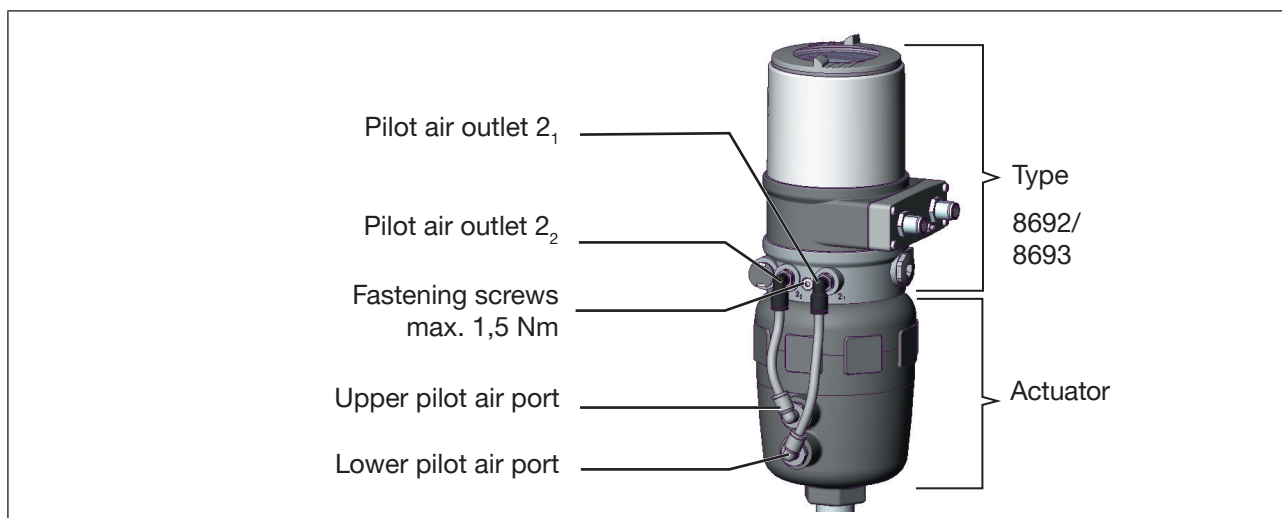

Figure 20: Installation of Type 8692/8693 on process valves belonging to series 26xx and 27xx
Ensure that the pneumatic connections of Type 8692, 8693 and those of the valve actuator are situated preferably vertically one above the other (see Figure 20).
- Attach Type 8692/8693 to the actuator using the two side fastening screws. In doing so, tighten the screws only hand-tight (max. tightening torque: 1.5 Nm (1.1 lbf ft)) (see Figure 20).